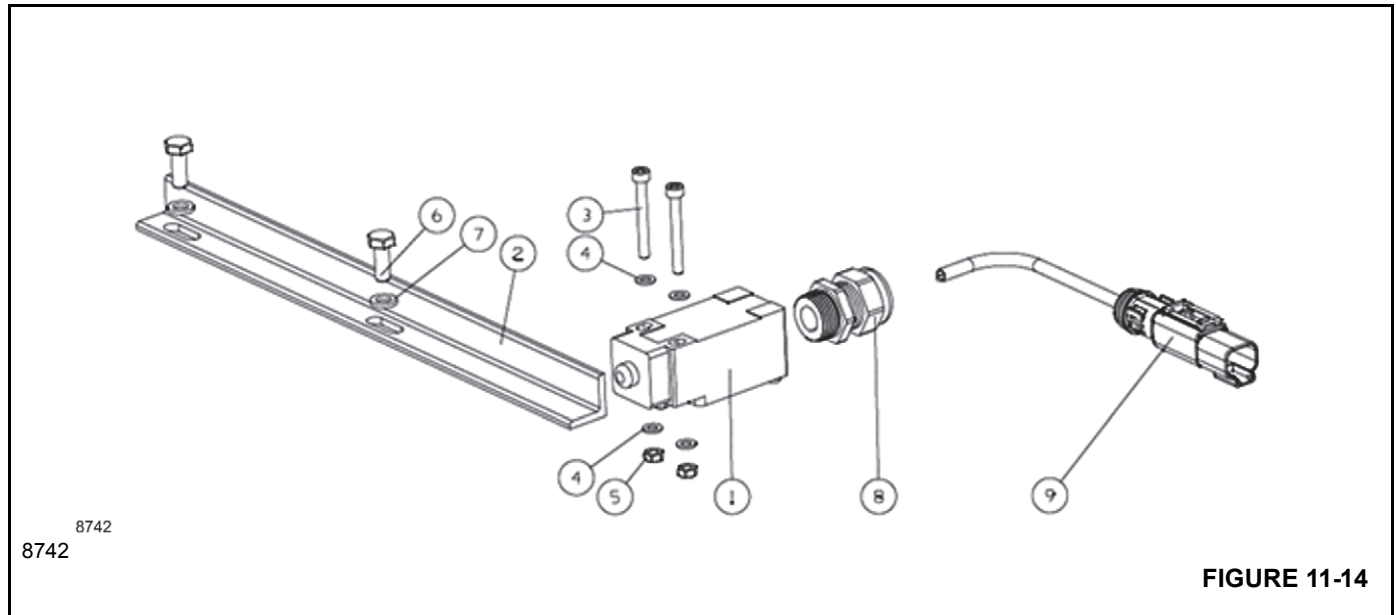

FIGURE 11-14
1. Unplug the connector (item 9, Figure 11-14) from crane harness.
2. Remove the socket head cap screws (item 3, Figure 11-14), washers (item 4, Figure 11-14), and nuts (item 5, Figure 11-14).
3. Remove the switch (item 1, Figure 11-14) from the DRI/ third wrap bracket (item 43, Figure 11-11).
4. Remove the wire harness (item 9, Figure 11-14) from the switch (item 2, Figure 11-14) by loosening the nut (item 8, Figure 11-14).
5. Remove the cap screws (item 6, Figure 11-14) and washers (item 7, Figure 11-14) from the levers (item 2, Figure 11-12).
6. Remove the actuator plate (item 2, Figure 11-14) from the levers (item 2, Figure 11-12).
1. Using the cap screws (item 6, Figure 11-14) and washers (item 7, Figure 11-14) fasten the actuator plate (item 2, Figure 11-14) to the levers (item 2, Figure 11-12). Torque the cap screws (item 6, Figure 11-14) to 9.5 Nm (7 lb-ft).
2. Install the wire harness (item 9, Figure 11-14) into the switch (item 1, Figure 11-14) and tighten the nut (item 8, Figure 11-14).
3. Install the switch (item 1, Figure 11-14) onto the DRI/ third wrap bracket (item 43, Figure 11-11) using the socket head cap screws (item 3, Figure 11-14), washers (item 4, Figure 11-14), and nuts (item 5, Figure 11-14). Tighten the socket head cap screws (item 3, Figure 11-14) so that the switch will still move.
4. Adjust the position of the switch (item 1, Figure 11-14) so that the actuator bar (item 2, Figure 11-14) contacts the switch (item 1, Figure 11-14) pin lightly once the roller assembly (item 30, Figure 11-11) is in the lowest position.
5. Attach the connector (item 9, Figure 11-14) to the crane harness.